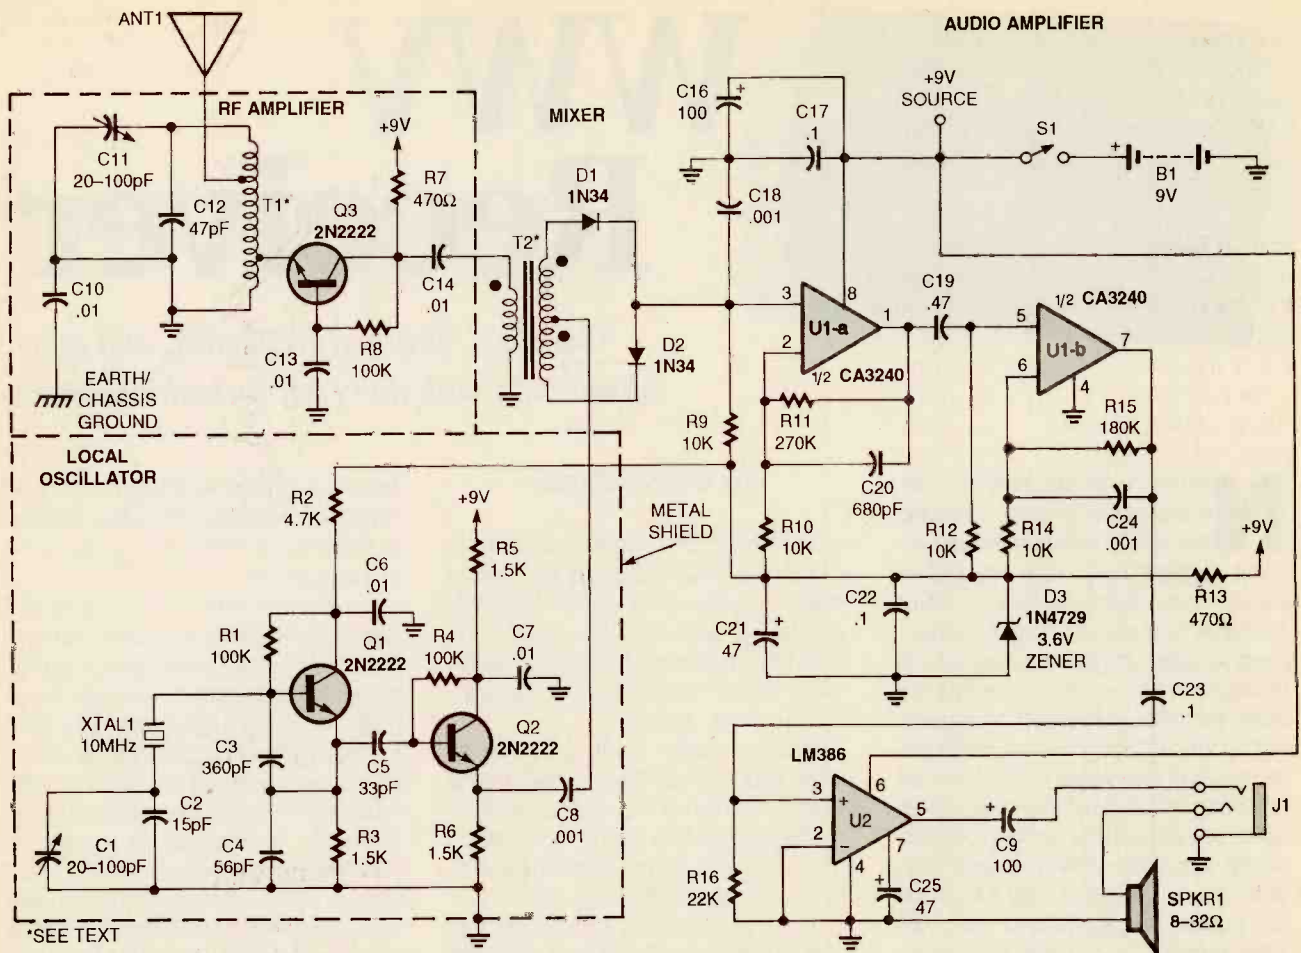

Fig. 1. The single balanced-diode mixer used in the WWV Receiver comprises T2, D1 and D2. The LO amplitude must be sufficient to forward bias the diodes.
**Circuit Detail.** Figure 1 shows a schematic diagram of the WWV Receiver. Incoming RF is picked by the antenna (ANT1) and is coupled via an auto-transformer to a grounded-base amplifier (Q3), before being applied to a diode-mixer network that is comprised of T2, D1, and D2. Best mixer performance is obtained when both secondary windings of T2 are identical, and D1 and D2 are matched.